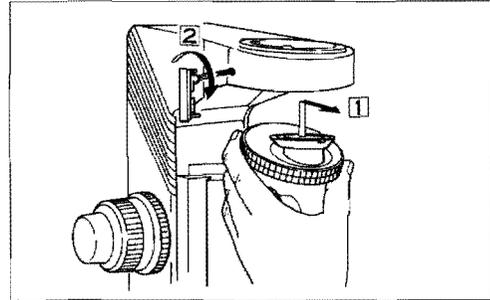

Fig. 2-7
⑤ Mounting and Dismantling the Revolving Nosepiece
- Loosen the revolving nosepiece clamp screw sufficiently using the hexagon wrench. (See ④.)
- To mount the revolving nosepiece push it in so the groove of the revolving nosepiece engages with the pin of the circular dovetail 1. Fasten it with the revolving nosepiece clamp screw 2 (Fig. 2-7).